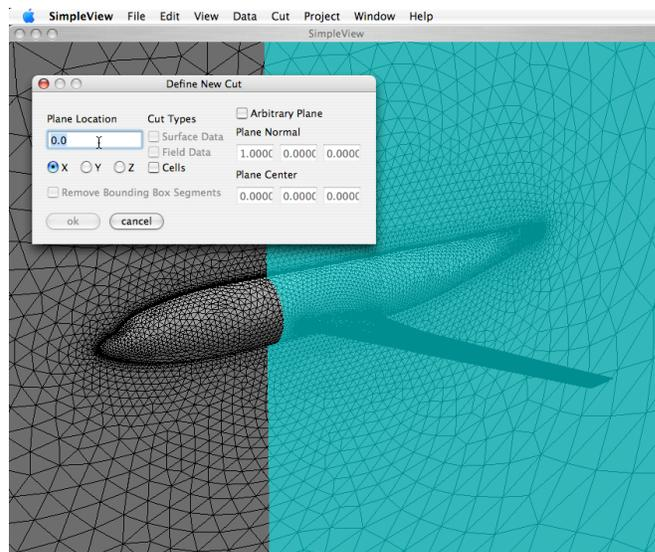

Figure 2.5.1 The Data Cut Pop-up Menu : specifying the cutting plane location
2. Select the “Define New Cut” option from the “Cut” panel. The “Data Cut Pop-up”/”Define New Cut” window will appear, and, by default, SimpleView will display a transparent blue plane at the $x=0$ location, as shown in Figure 2.5.1.
To extract the flow quantities, you begin by defining a plane in the same way that you would do so in order to perform a volume grid cut (as shown in Figure 2.5.1)—by selecting the “Define New